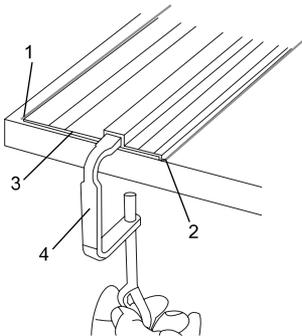

Fig. 15
4. Place the clamp (4) on the left hand side of the guide track at each end to hold it firmly onto the workpiece with the left edge on the guide track alignment marks (1) (Fig.15).